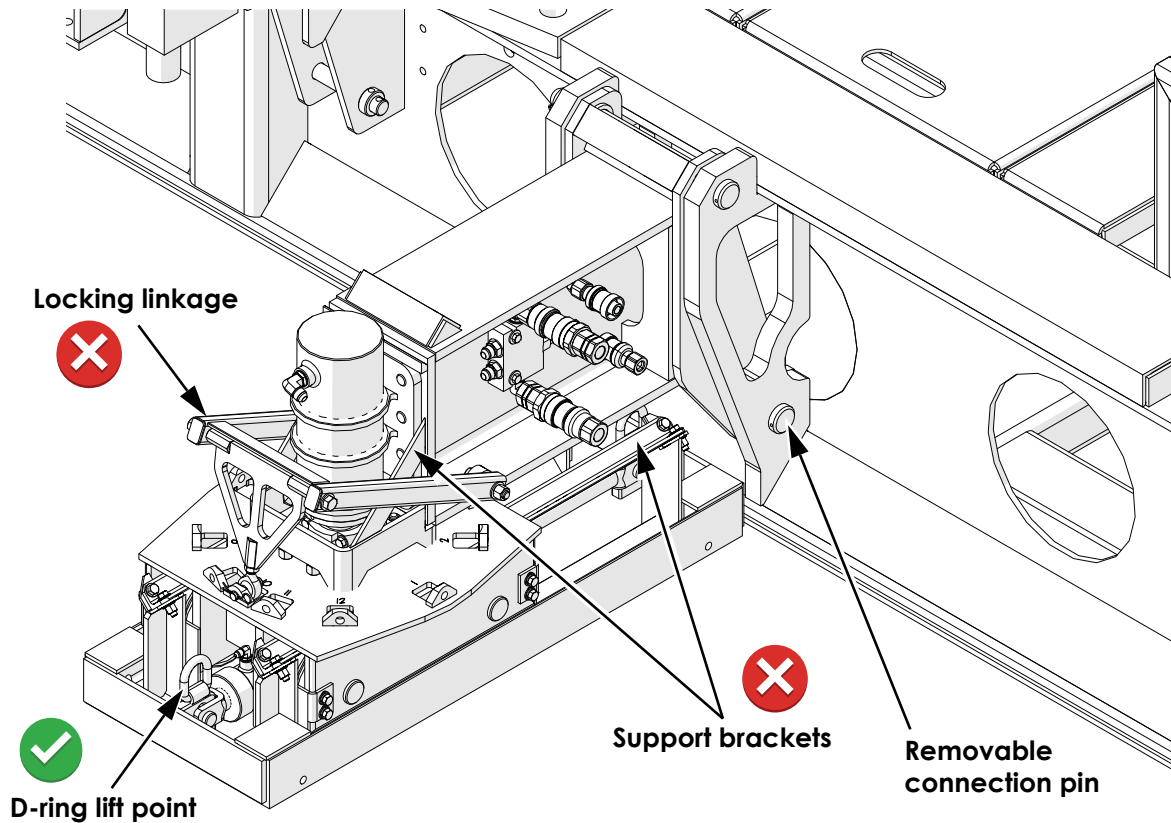

Figure 2: Padwalker in deployed position
2. Attach a chain to the D-ring (see Figure 2 on page 2) furthest from the edge of the catwalk.
4. Hoist the end of the pad walker and lower it into the deployed position (see Figure 2 on page 2).
2. Attach a chain to the D-ring. See Figure 2 on page 2.